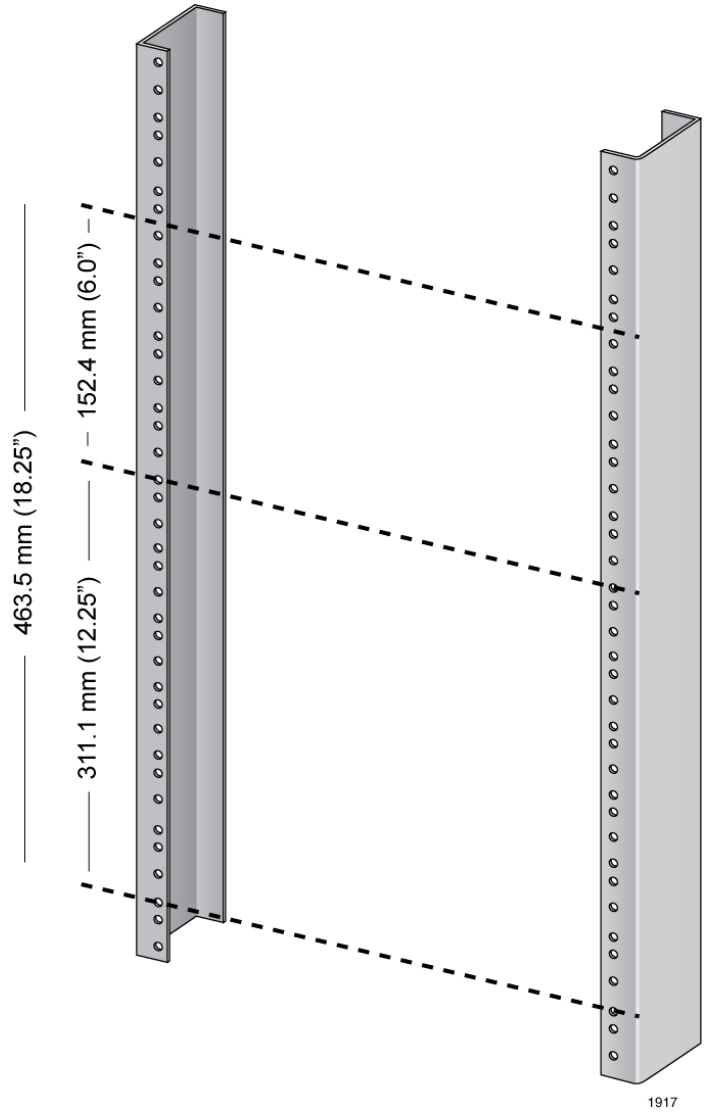

Figure 27. Reserving Vertical Rack Space
1. Reserve 311.1 mm (12.25") of vertical rack space for the installation of the AT-SBx8112 Chassis, as shown in Figure 27 on page 92.